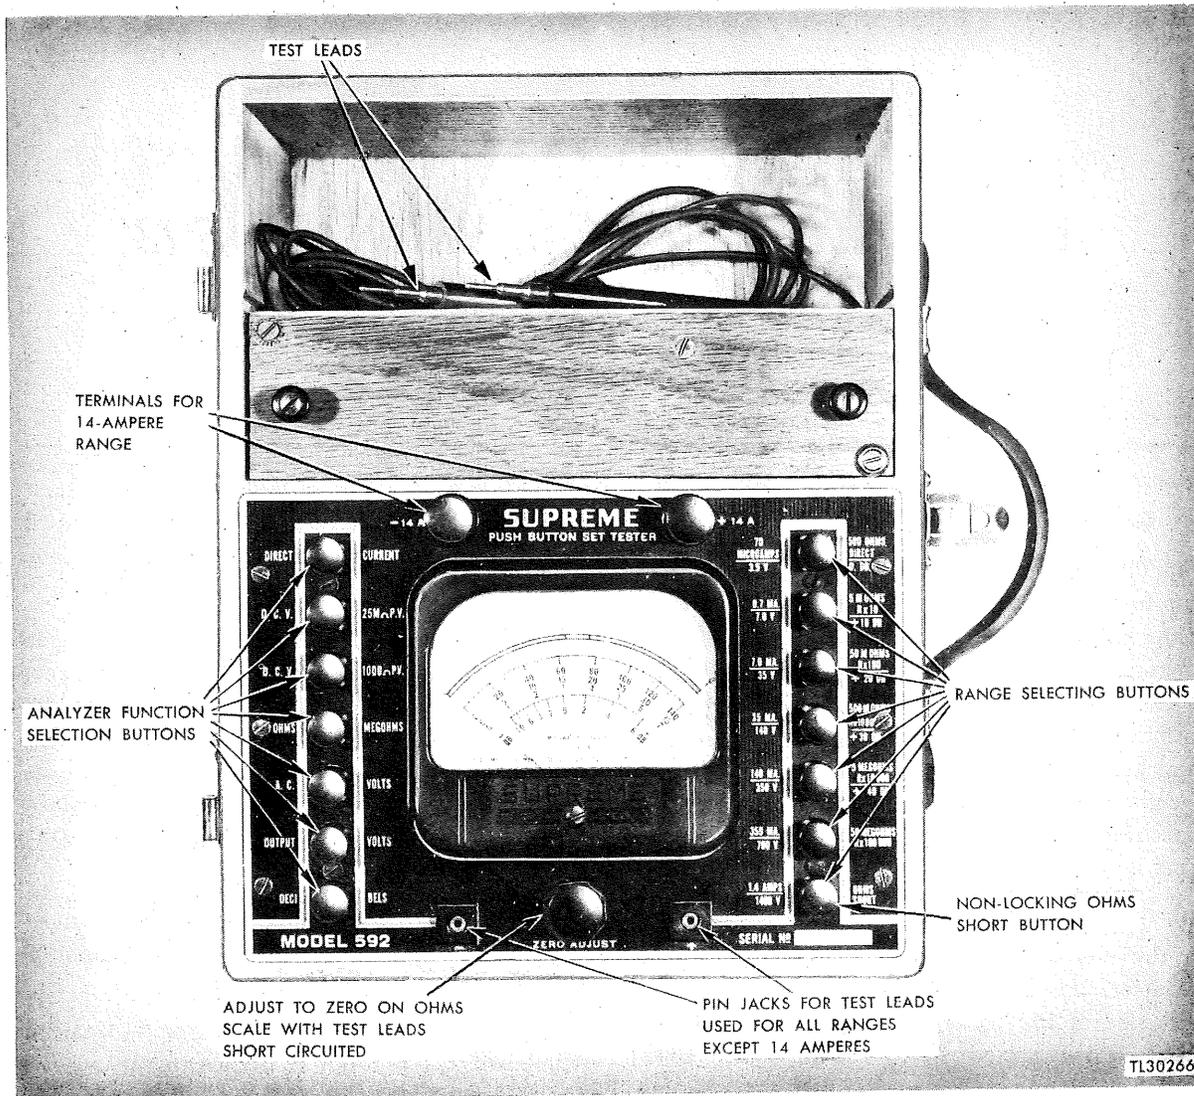
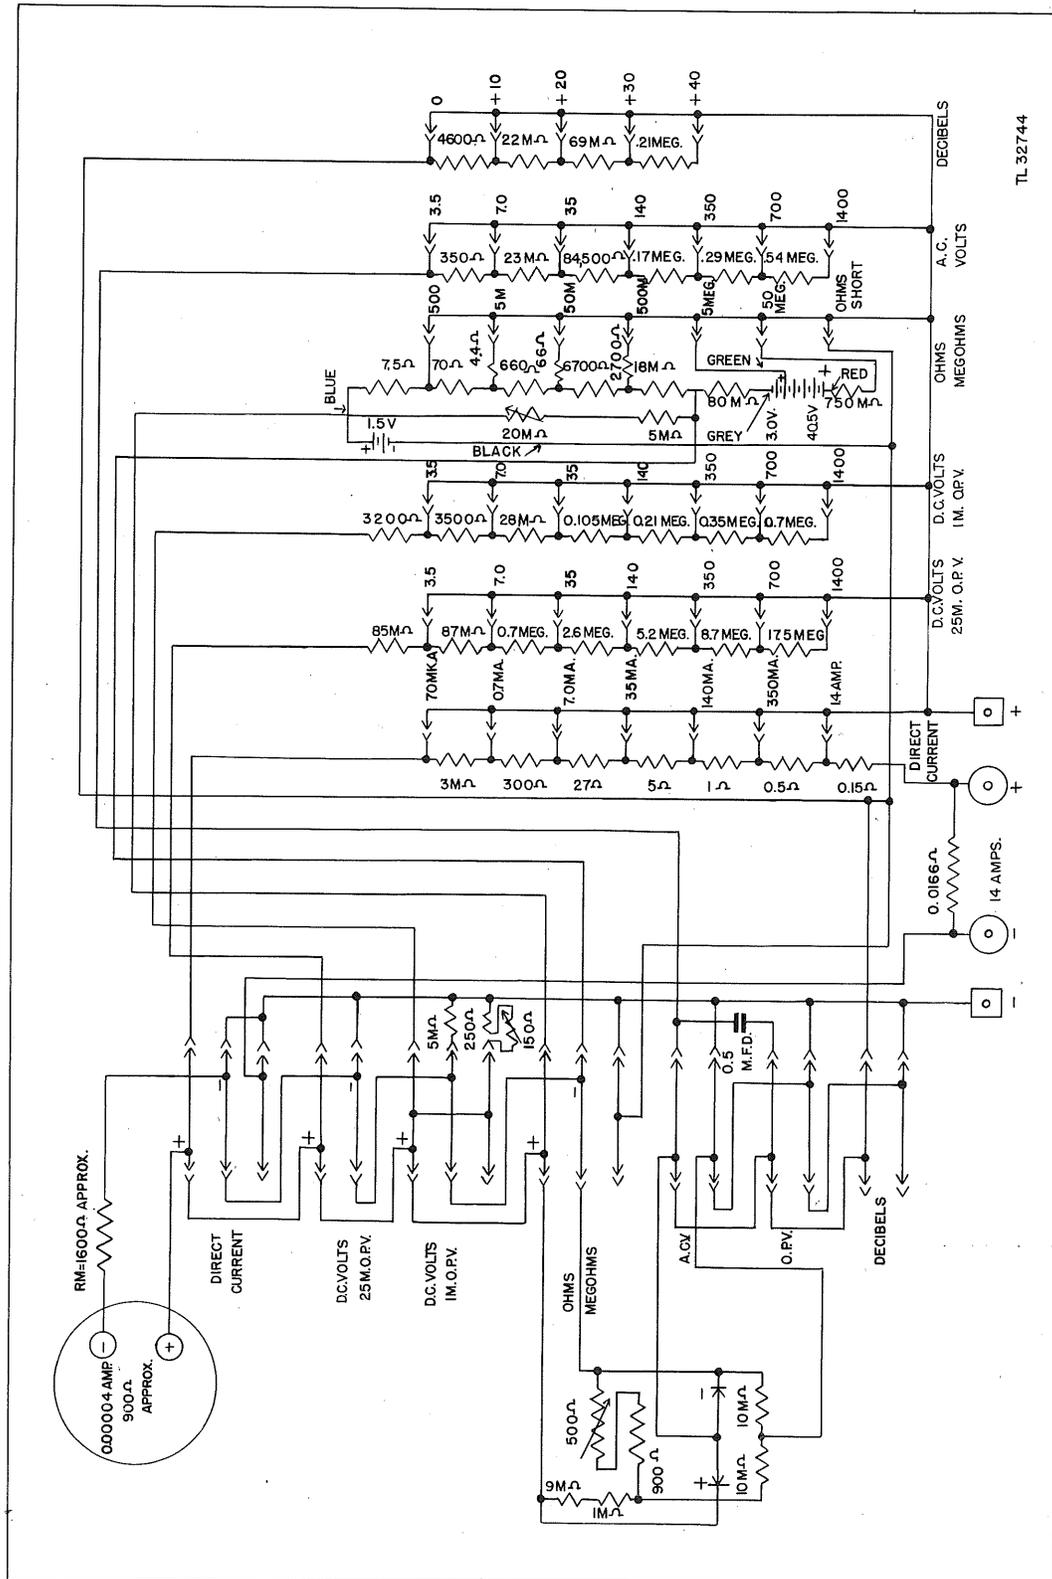

Figure 11. Analyzer, Supreme series 592, panel view.
Figure 12. Analyzer, Supreme series 592, schematic diagram.
a. The Supreme model 592, is an automatic, push-button operated multimeter. The front view of the panel is shown in figure 11. The schematic diagram is shown in figure 12. This unit is equipped to measure d-c volts between zero and 1,400 in seven ranges, at sensitivities of 25,000 and 1,000 ohms per volt; d-c current from zero to 14 amperes in eight ranges; a-c volts between zero and 1,400 in six ranges; and resistances from zero to 50 megohms in six ranges.
a. *Limitations.* (1) Operating voltages in Radio Set SCR-268-(*) cover a range from a fraction of a volt to about 11,000 volts. Voltages in parts of certain components cannot be measured accurately by the analyzers because they exceed the range of the analyzers. Such voltages appear in the transmitter, the rectifier, the modulator, the high-voltage
(2) The schematic diagram, figure 12, shows the values of component parts.
(3) Replace batteries, which are part of the meter, when necessary. Need for replacement may be indicated by faulty meter operation or periodic checks. When opening test equipment for inspection of batteries, visually inspect the wiring and component parts for loose connections, obviously overloaded components, dirty switch contacts, or other likely sources of trouble.
(4) In testing meter circuits with an ohmmeter, the sensitive indicating meter movement of a piece of test apparatus should be disconnected first from the circuit.
b. *Battery Testing and Replacing.* (1) Supreme model 592, analyzer, uses four 1.5-volt batteries and one 45-volt battery for its ohmmeter. The various sections of the ohmmeter battery are made